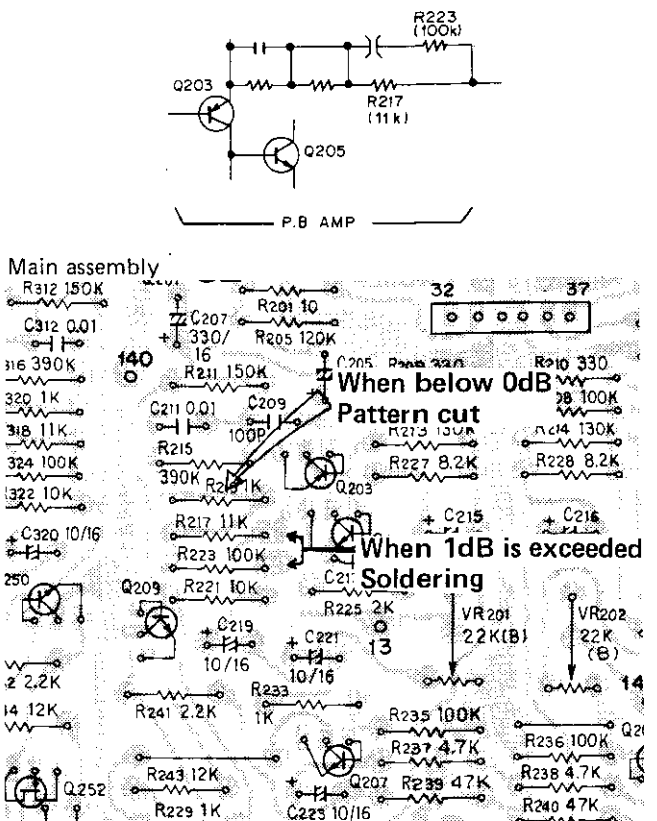

Fig. 9-6 Playback equalizer adjustment
2. If 1dB is exceeded, bridge the sections shown in Fig. 9-6 by soldering in order to reduce the level difference.
3. If the level is below 0dB, however, cut the circuit pattern at the positions shown in Fig. 9-6 in order to raise the level.